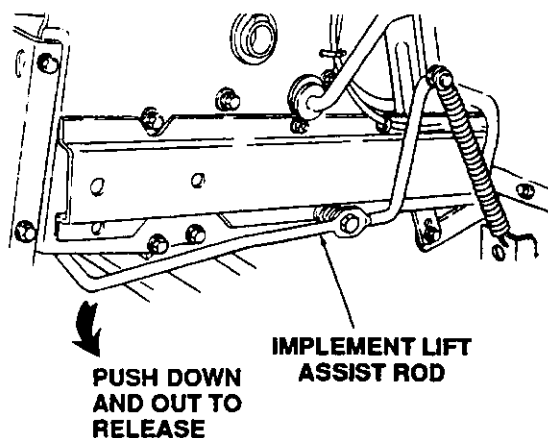

Figure 28
4. Push downward and outward on rearward end of each of the two implement lift assist rods located at the right rear and left rear of the tractor. (Refer to Figure 28.)
8. Push downward and inward on rearward end of each implement lift assist rod so the disk (at rearward end of lift assist rod) is inside the tractor frame. (Refer to Figure 28.)